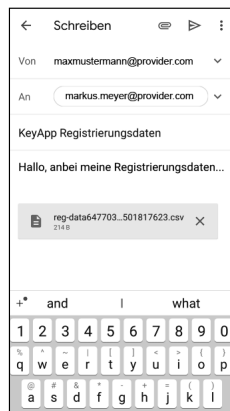

Fig. 49
- 6 An email is then automatically created and opened in your email program. The attachment contains a registration file with the extension ".csv" (Fig. 49).